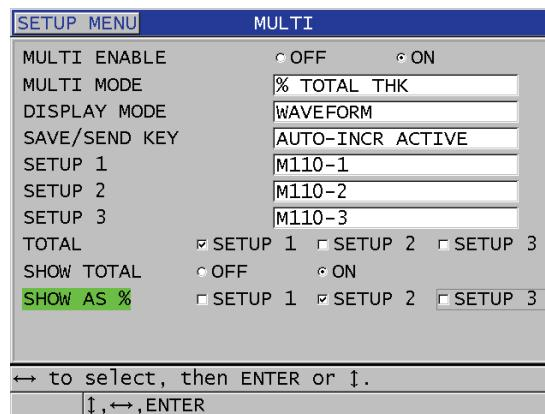

Figure 7-10 Setting multi-measurement parameters in the % total thickness mode
2. In the **MULTI** screen (Figure 7-10 on page 101):